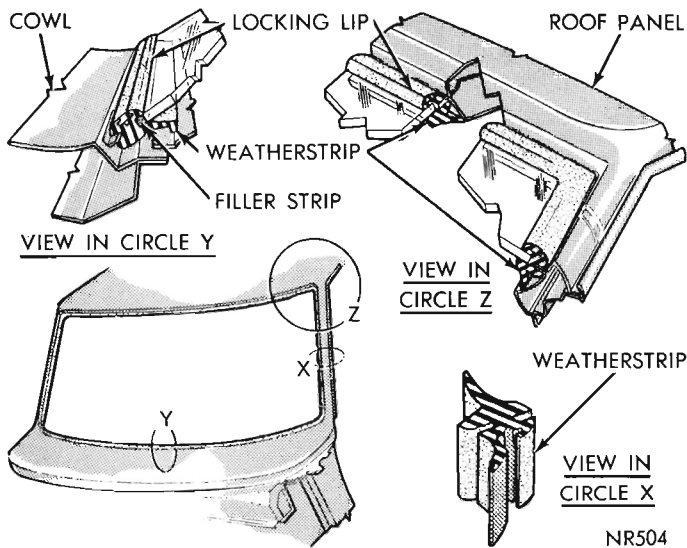

Fig. 1 Windshield Weatherstrip
(4) Unlock weatherstrip (Figs. 1) by prying lip of weatherstrip apart, inserting a fibre wedge, and with a slight twist to wedge, unlock weatherstrip by moving tool around weatherstrip.
(5) Carefully loosen weatherstrip from glass inner and outer sides.
(6) With an assistant supporting one end of windshield, exert pressure, from inside car, to force windshield out of weatherstrip and carefully remove from opening.
(7) Whenever a glass has cracked from pressure at the fence area, remove weatherstrip and correct cause of crack. The fence should be straight, smooth, without burrs or high spots.
(8) Inspect weatherstrip for damage.